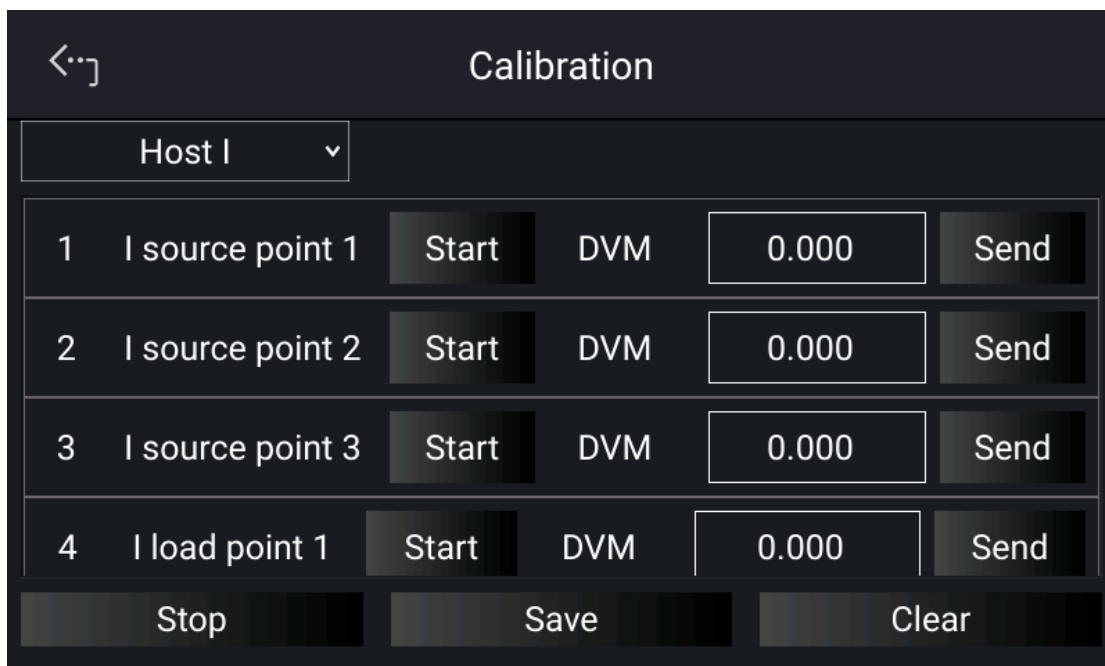

Figure 3-67
2. In the Calibration page, tap “Host V” to set HOST I and list the current calibration items as shown in Figure 3-67